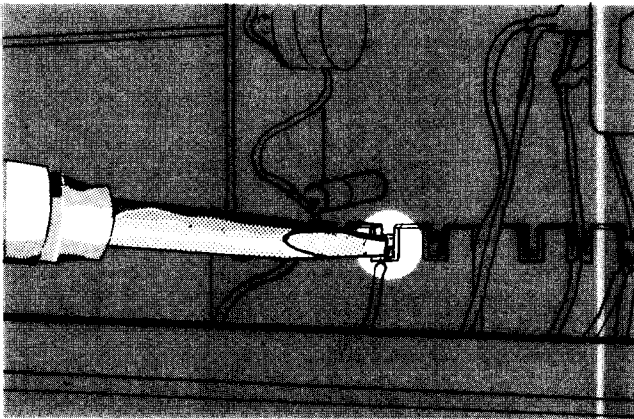

Fig. 4-1. Correct method of applying heat when soldering on a ceramic terminal strip.
3. Apply heat by touching one corner of the soldering iron tip to the base of the notch. See Fig. 4-1. (Do not force the tip of the iron into the terminal notch, as this may chip or break the ceramic strip.)